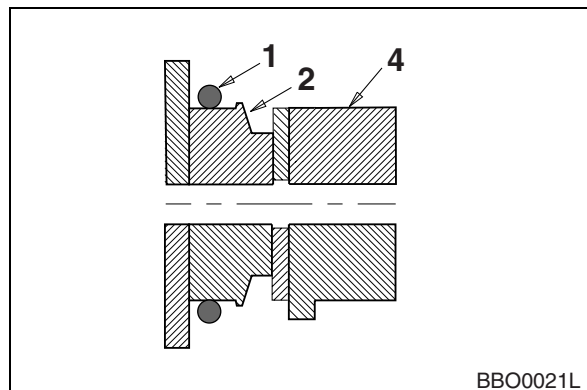

Figure 85
3. Remove old O-ring and temporarily install new O-ring (1, Figure 85) onto bucket boss (2). Make sure that O-ring groove on both bucket link (4) and boss have been cleaned.